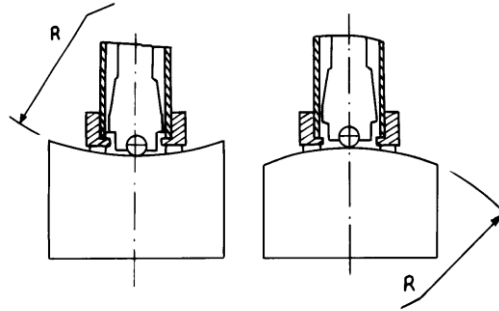

Figure 2
- Curved surface: The best testing surface of sample is flat. When the curvature radius  $R$  of the surface to be tested is smaller than 30mm, the small support ring or the shaped support rings should be chosen, see figure 2.